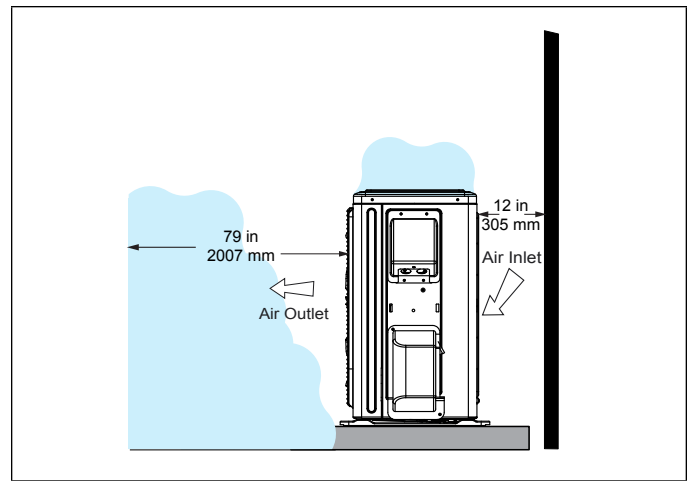

Figure 9. Outdoor Unit Air Flow Obstructed by Snow
- In heavy snow areas, do not place the outdoor unit where drifting will occur as illustrated in “Figure 9. Outdoor Unit Air Flow Obstructed by Snow” on page 7.